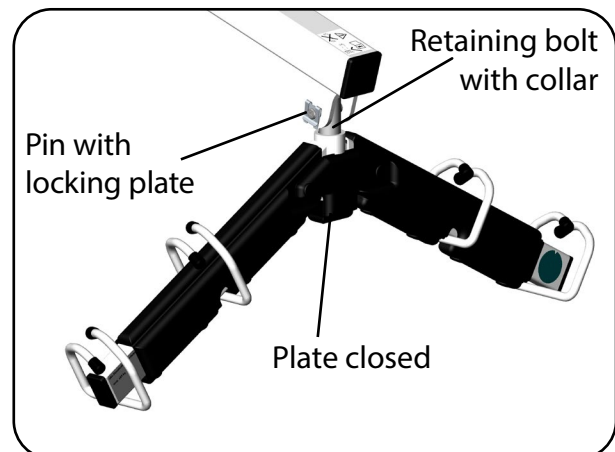

Fig. 6.2.09 – Spreader bar installed
14. Attach the spreader bar with the inserted retaining bolt with collar to the lifting arm by inserting the bolt through the holes on the end of the lifting arm. Secure the pin with the locking plate and close the bar padding (plate) (Fig. 6.2.09).